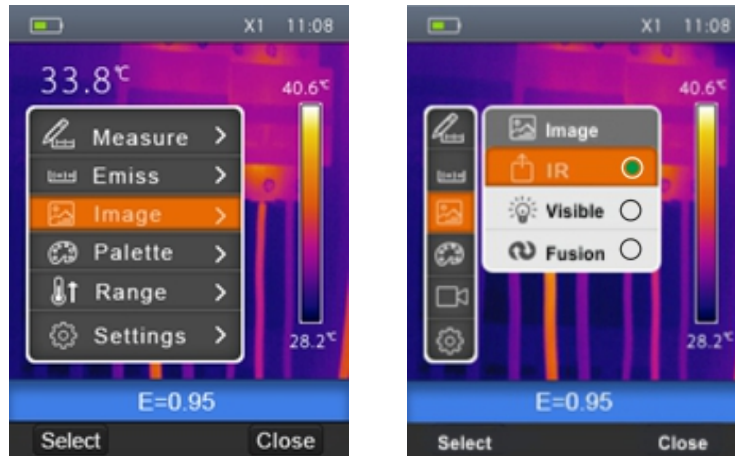

Fig. 19: Selecting the image display mode
1. Select the item "Image" using the keys \oplus or \ominus and press the key . The screen Fig. 19 – Right side is shown on the display